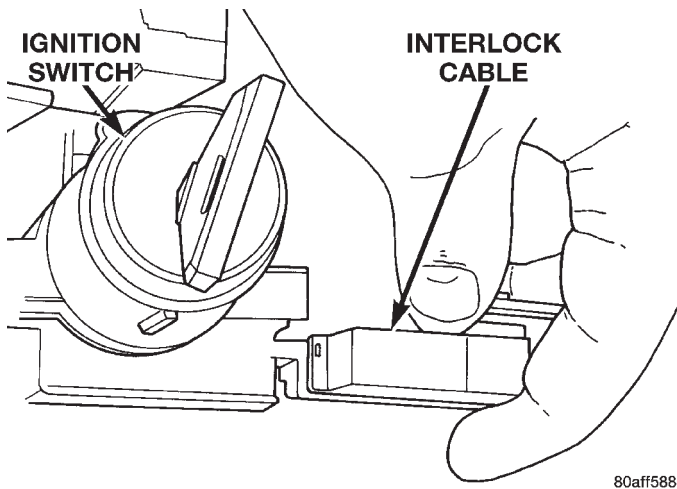

Fig. 28 Interlock Cable At Housing
- (3) Install the interlock cable into the interlock housing at the steering column (Fig. 28). Verify the cable snaps into the housing.